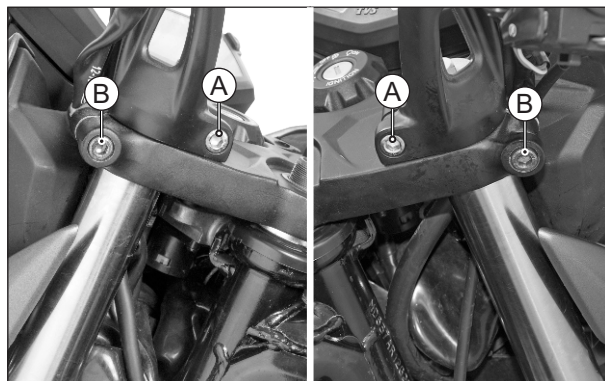

Fig. 2.80
- Loosen hexagonal socket head cap screws (A) (M8x30 - 2 nos.) from the mounting of handle bar assembly with the front fork. (Fig. 2.80)
- Similarly, loosen hexagonal socket head cap screws (B) (M8x45 - 2 nos.) from the mounting of lower bracket complete (fork upper mounting). (Fig. 2.80)